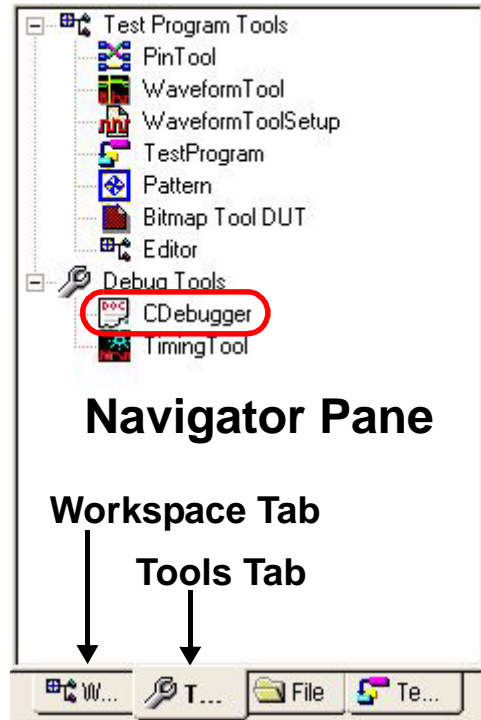
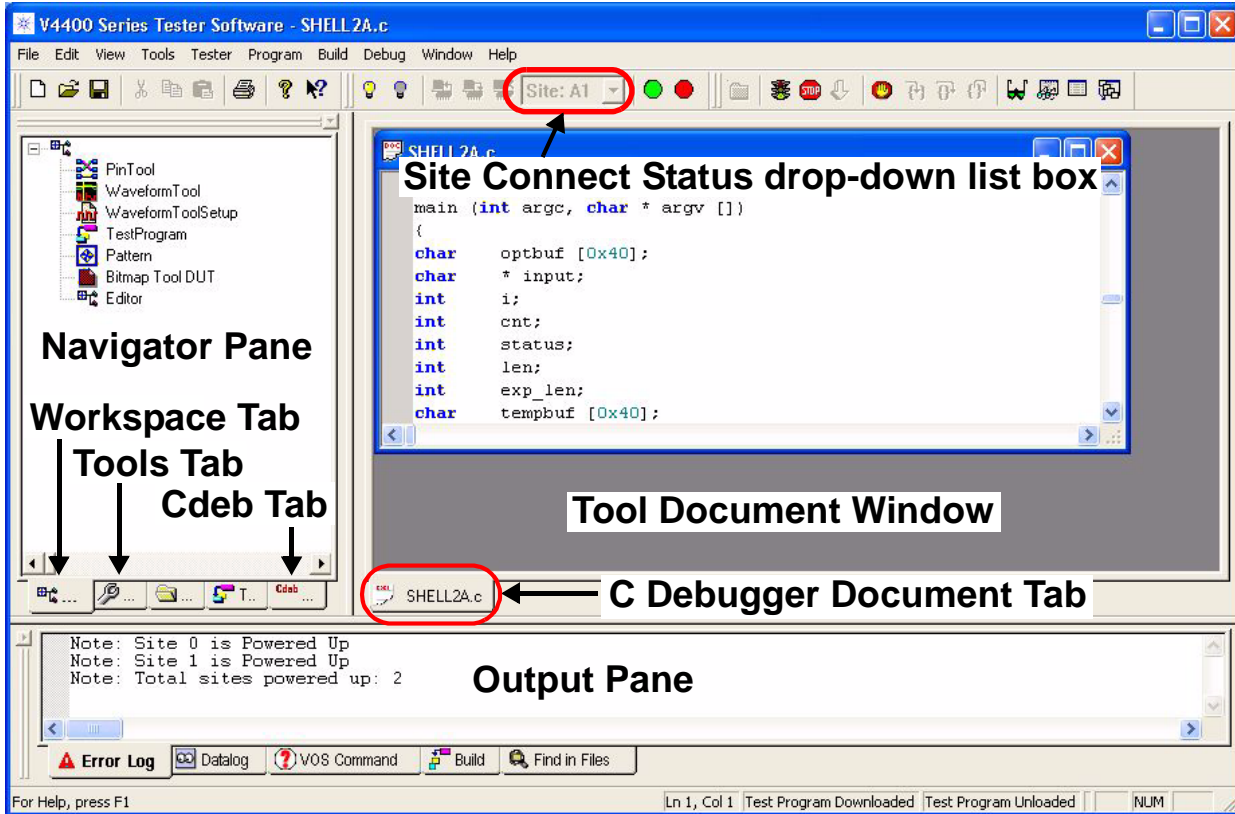

Figure 6-54. Navigator Pane Tools Tab
Figure 6-55. IDE Displaying C Debugger
- 4 Selecting the Navigator pane Tools tab icon displays its tab (Figure 6-54).
- 5 Double-clicking CDebugger under Debug Tools (Figure 6-54) displays the C Debugger as the active tool in the Tool Document window (Figure 6-55). Selecting the tool makes the connection to that site and disables the Site Connect Status drop-down list box. This also adds the C Debugger Cdeb (Cdeb) tab to the Navigator pane, its menu bar and toolbar, and displays the Workspace in the Navigator Pane.